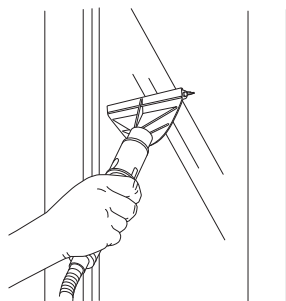

fig. 15
- 1 Attach the Window Squeegee by snapping into the handle of the Accessory Hose until it clicks into place. **(fig. 15)**